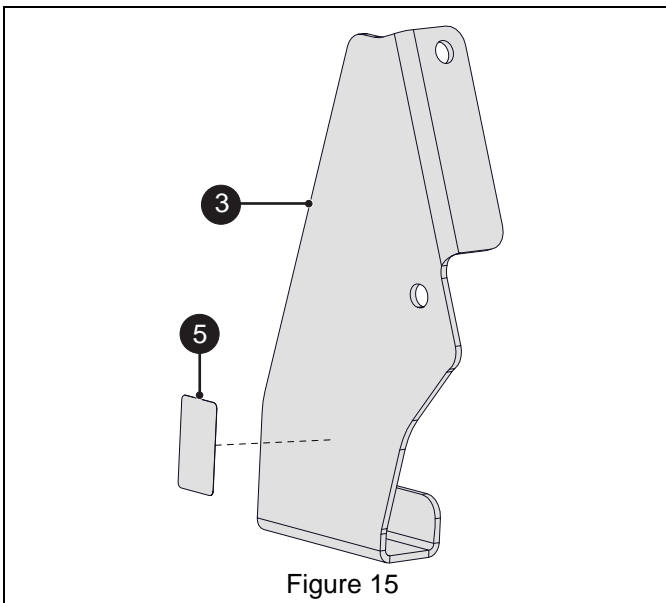

Figure 15
11. Clean surface thoroughly and attach one transmission disconnect decal (item 5) to right-side support bracket (item 3). See Figure 15.